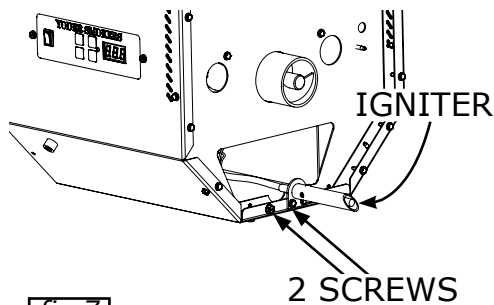

fig 7
- Prepare the new hopper for installation: remove the two screws that secure the igniter to the hopper, as shipped. Turn the igniter around and reinstall as shown in fig 7, below. Secure with two screws.